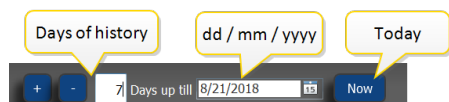

Figure 4-9 History time frame selection
2. In the history windows for projects, errors and events, you can set the time frame by number of days, date, or select the current day, see Figure 4-9.